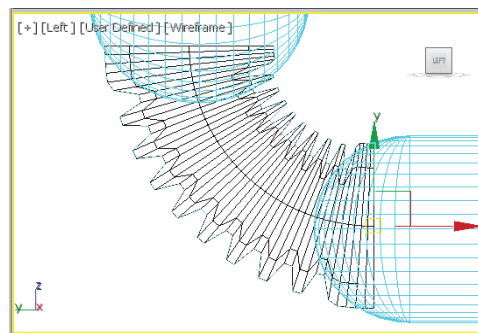

Figure 3-37 Alignment of spring support in the Left viewport
10. Choose the **Select and Move** tool and align *spring support*, as shown in Figure 3-37.